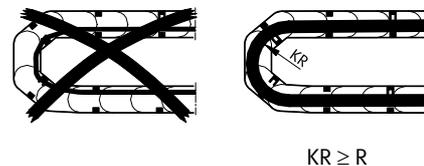

Fig. 2
- Make sure that the cables can move freely in the bending radius "KR", the cables must not be forced through the chain (see Fig. 2).